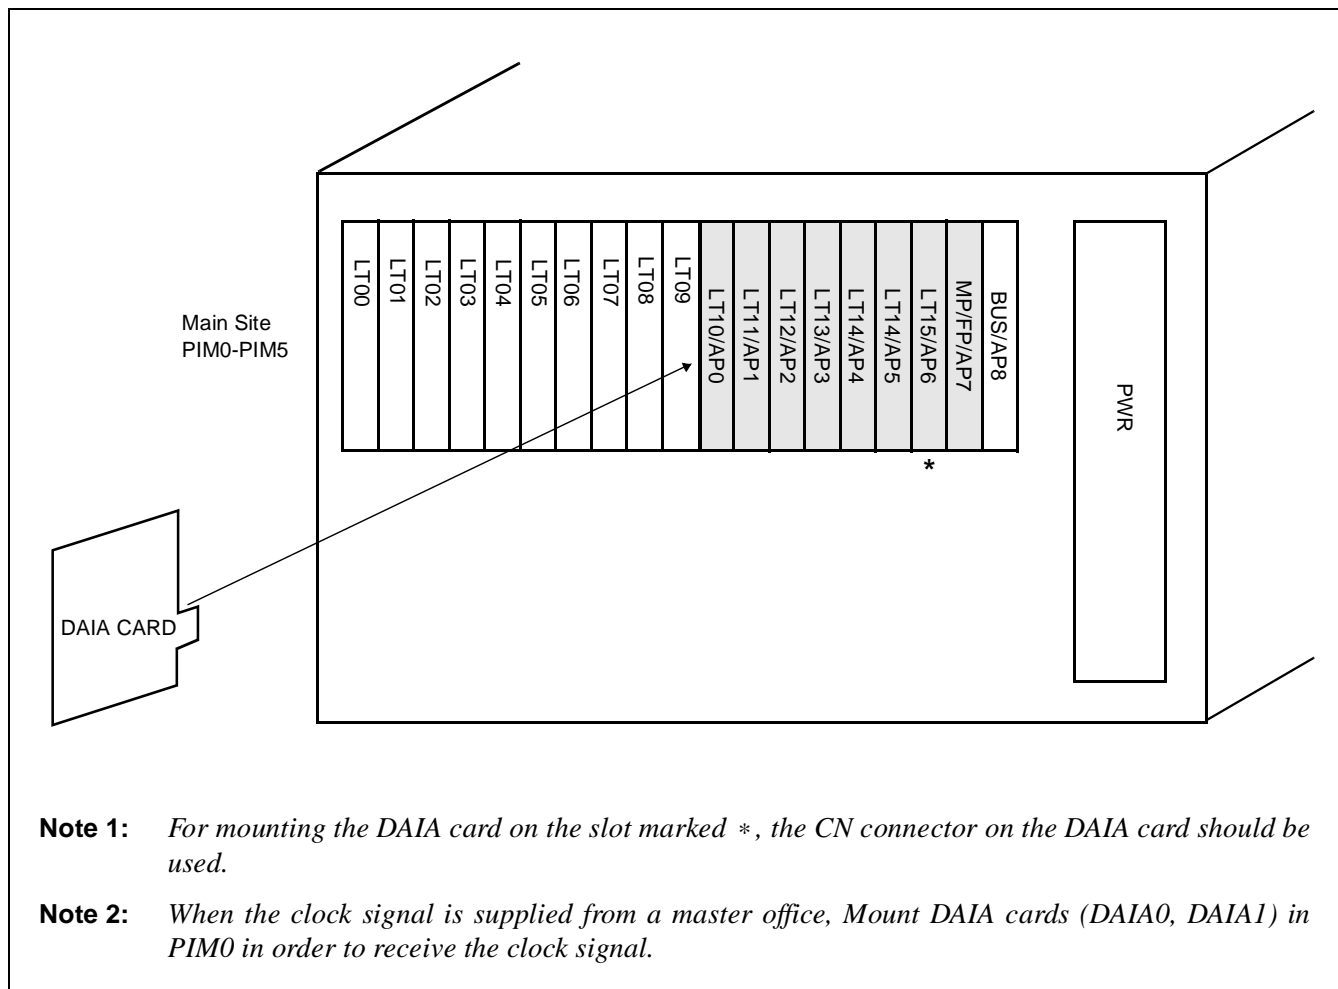

Figure 3-6 Mounting Location of DAIA Card
STEP 2: Mount DAIA card in the AP slots (AP0-AP7) on the Main Site PIM0-PIM5. A maximum of three DAIA cards can be mounted. Figure 3-6 shows the mounting location of the DAIA card.